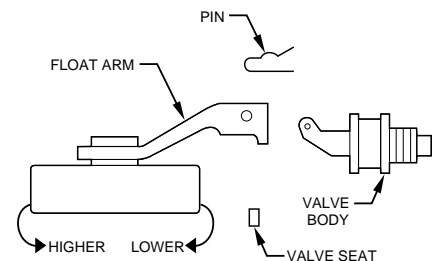

Fig. 11—Float Arm Removal
The Model HUMBWTR is controlled by a float valve. Turning off the furnace will not affect the water flow until float level is achieved. (See Fig. 11.)
6. Inspect the float assembly. Remove the float arm from the valve body by sliding out the pin and lifting off the float arm. (See Fig. 11.) Inspect the rubber valve seat located inside the float arm. If the seat appears to be nicked or worn, invert the seat or replace it with the spare valve seat